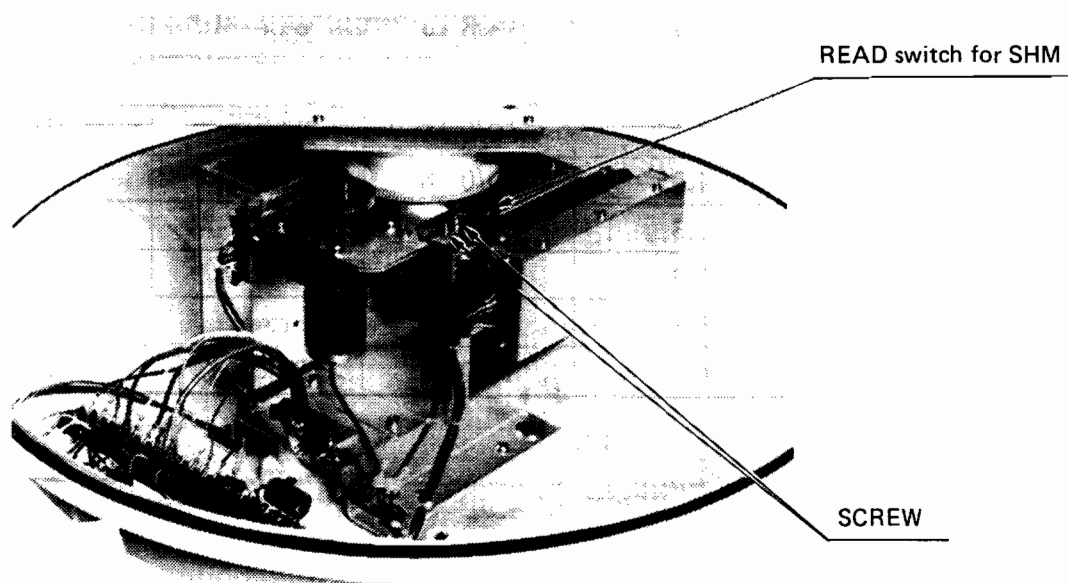

Fig. 4-5 RELATIVE BEARING ALIGNMENT
- (2) Head the vessel to the target.
- (3) Establish the bearing of the target on the screen.
- (4) Compare the bearing measured in step (2) and (3) above and calculate the direction and magnitude of the bearing error.
- (5) Loosen the screws which secures the SHM unit in the Scanner (*See Figure 4-5*).
- (6) Rotate SHM unit clockwise or counterclockwise until the bearing of the target on the screen is the same as the bearing of step (2).
- (7) Tighten the screws, checking that the scale reading does not alter.